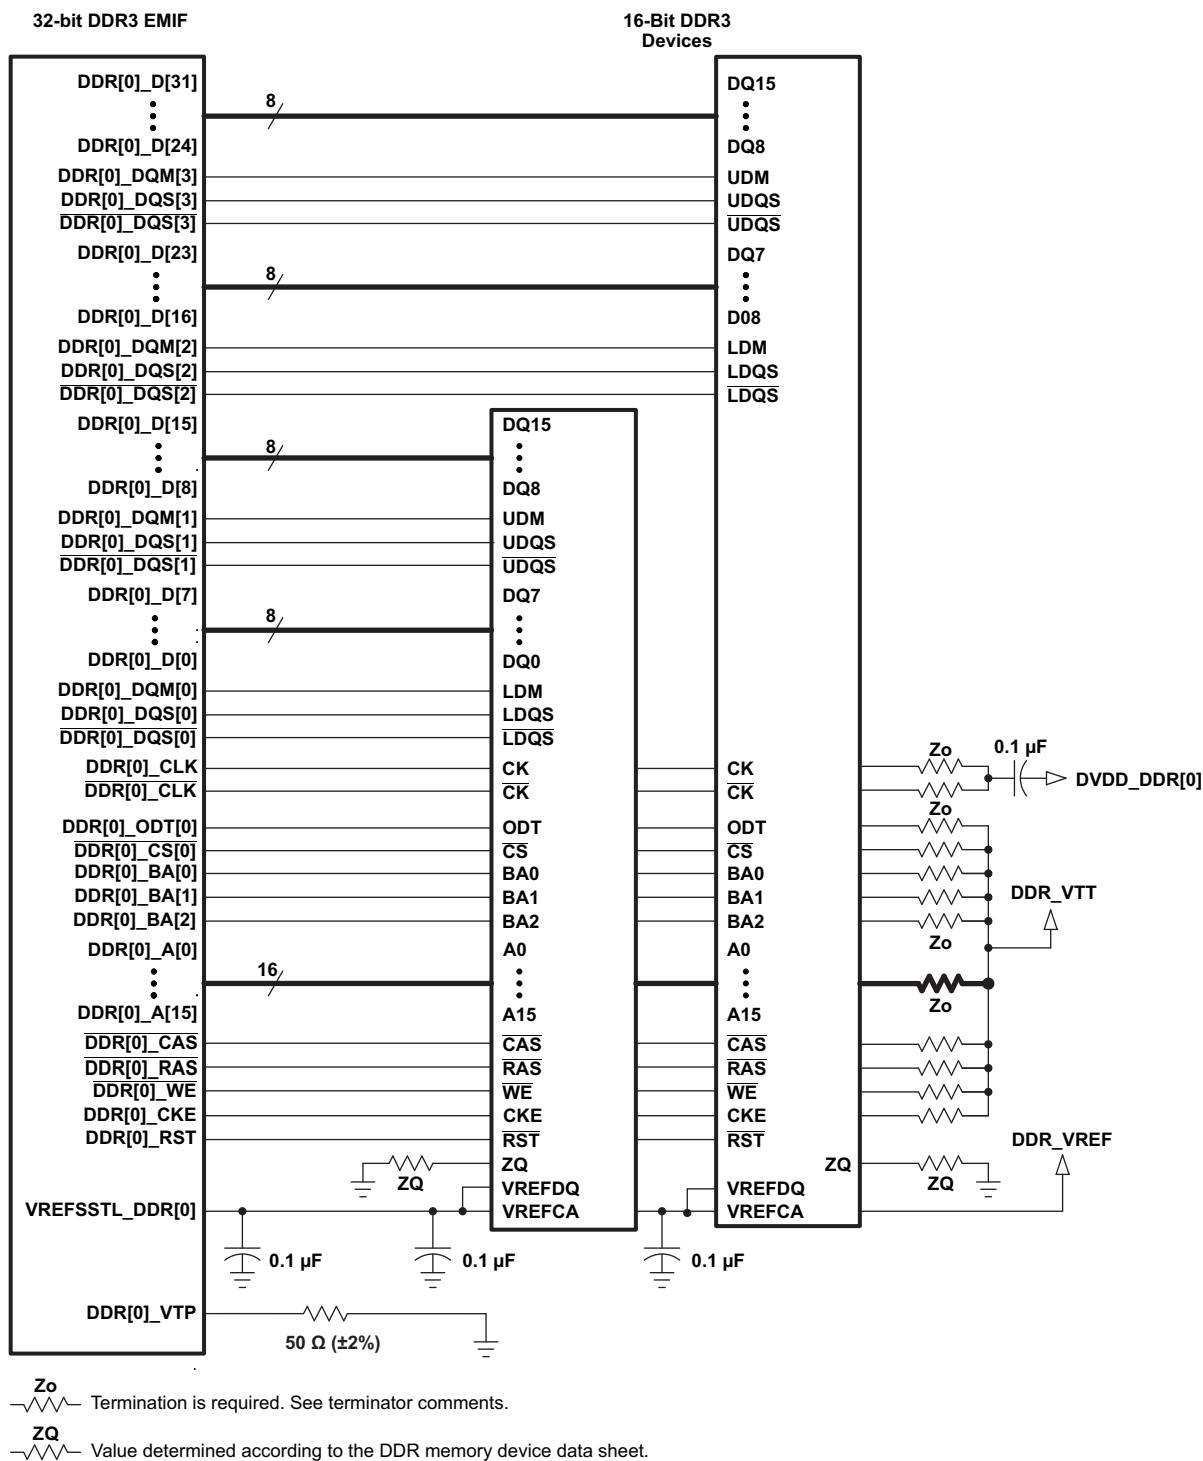
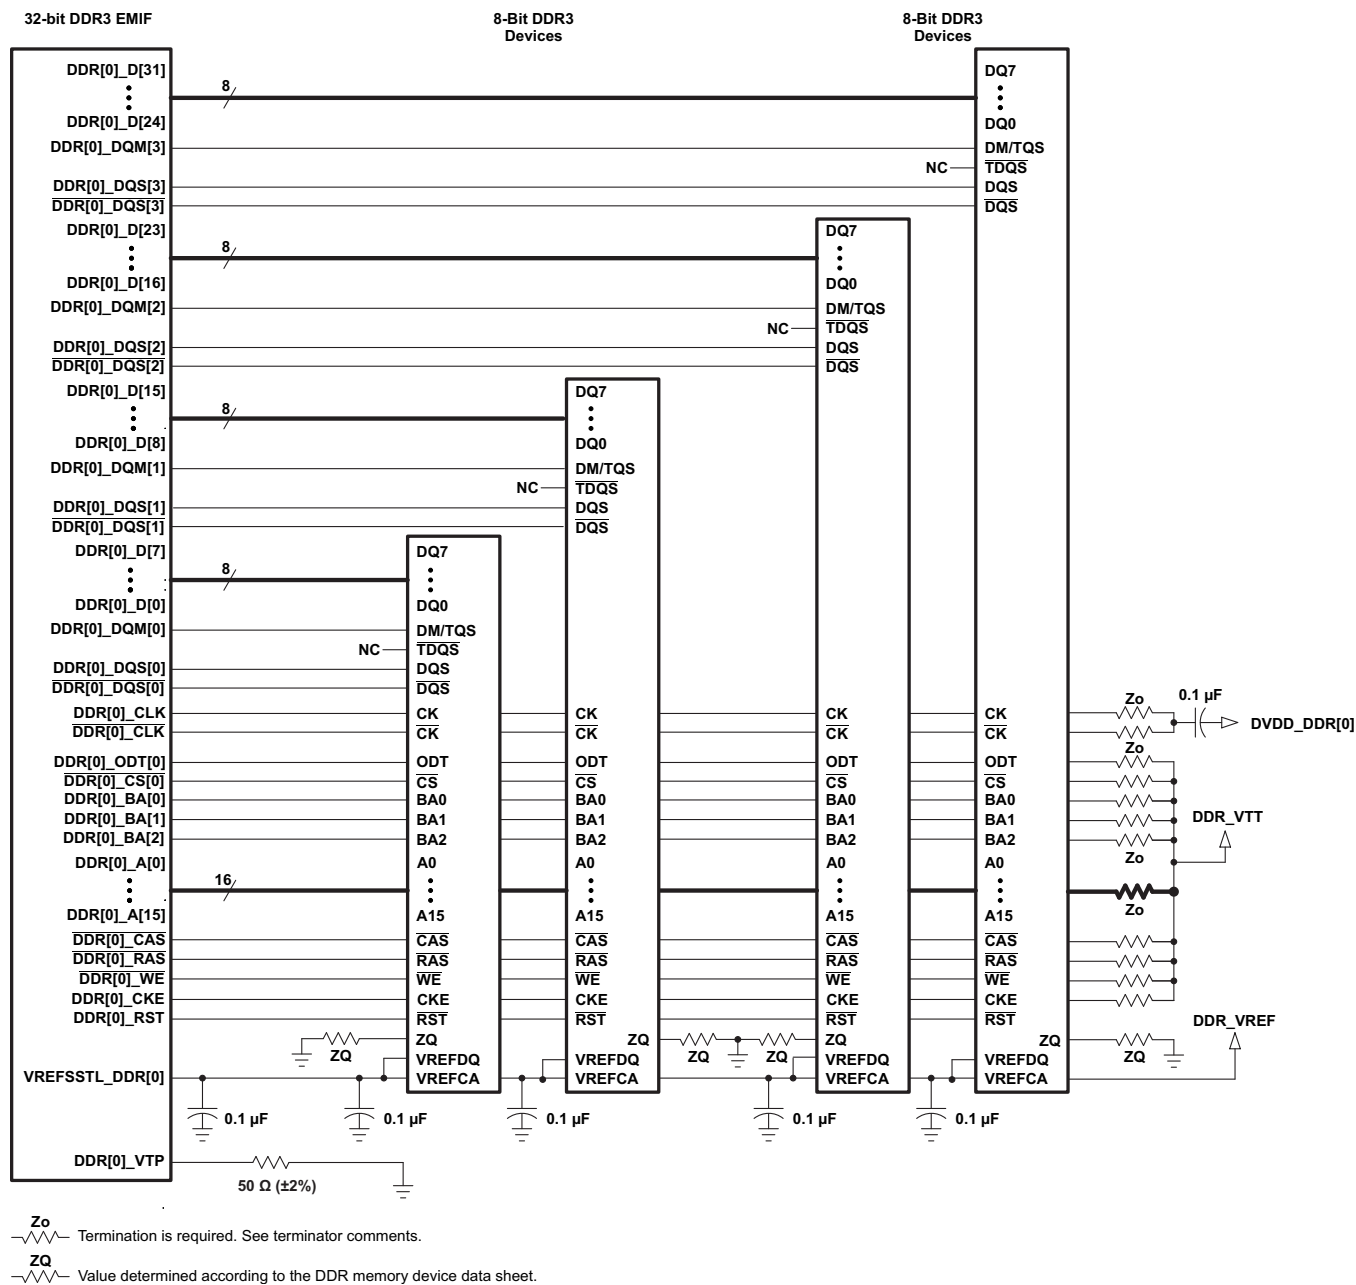

Figure 8-57. 32-Bit, One-Bank DDR3 Interface Schematic Using Two 16-Bit DDR3 Devices
Figure 8-58. 32-Bit, One-Bank DDR3 Interface Schematic Using Four 8-Bit DDR3 Devices
The DDR3 interface schematic varies, depending upon the width of the DDR3 devices used and the width of the bus used (16 or 32 bits). General connectivity is straightforward and very similar. 16-bit DDR devices look like two 8-bit devices. Figure 8-57 and Figure 8-58 show the schematic connections for 32-bit interfaces using x16 devices.
Note that the 16-bit wide interface schematic is practically identical to the 32-bit interface (see Figure 8-57 and Figure 8-58); only the high-word DDR memories are removed and the unused DQS inputs are tied off. The processor `DDR[0]_DQS[2]` and `DDR[0]_DQS[3]` pins should be pulled to the DDR supply via 1-kΩ resistors. Similarly, the `DDR[0]_DQS[2]` and `DDR[0]_DQS[3]` pins should be pulled to ground via 1-kΩ resistors.
(1) DDR3 speed grade depends on desired clock rate. Data rate is 2x the clock rate. For DDR3-800, the clock rate is 400 MHz.
(2) DDR3 devices with higher speed grades are supported; however, max clock rate will still be limited to 533 MHz as stated in Table 8-61 *Switching Characteristics Over Recommended Operating Conditions for DDR3 Memory Controller*.
(3) For valid DDR3 device configurations and device counts, see Section 8.14.3.3, Figure 8-57, and Figure 8-58.